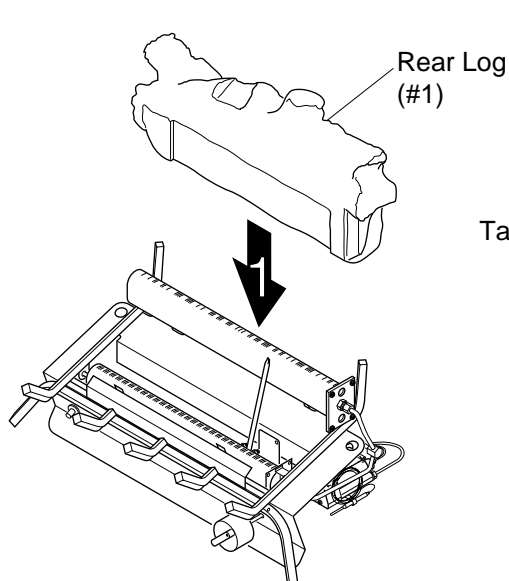

Figure 16 - Installing Rear Log
1. Slide rear log (#1) into place behind rear burner (see Figure 16).